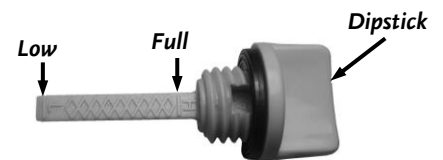

Figure 23
3. Continue adding a few ounces of oil at a time, until the oil reaches the Full line on the Dipstick (**Figure 23**). Be careful not to overfill.